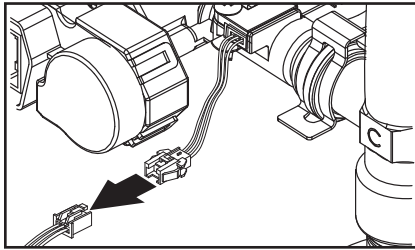

Figure 48 - Disconnect 3 Pin Wire Connector
- 6 Disconnect the 3 pin wire harness. Connector will be located near the cold water supply opposite from Smart Valve as shown in Figure 48. Place wires aside in a safe location so they are not damaged.